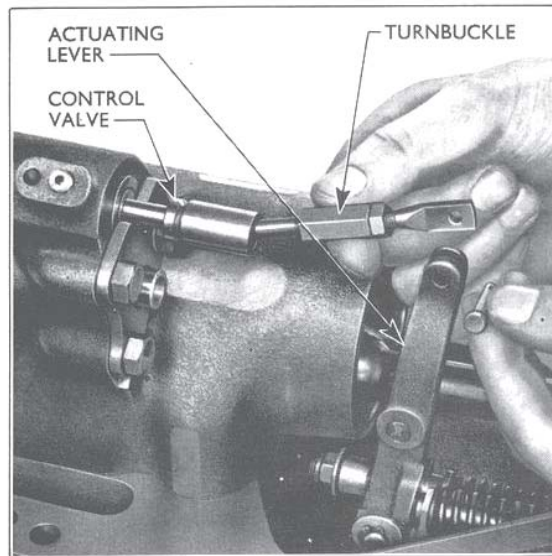

Fig. 29
3. Replace the control valve turnbuckle assembly securing the rear end to the control valve actuating lever with the appropriate cotter pin and split pin (see Fig. 29). Insert the forward end of the ram piston connecting rod within the piston and carry out the qualitrol linkage and position control adjustment as previously described.